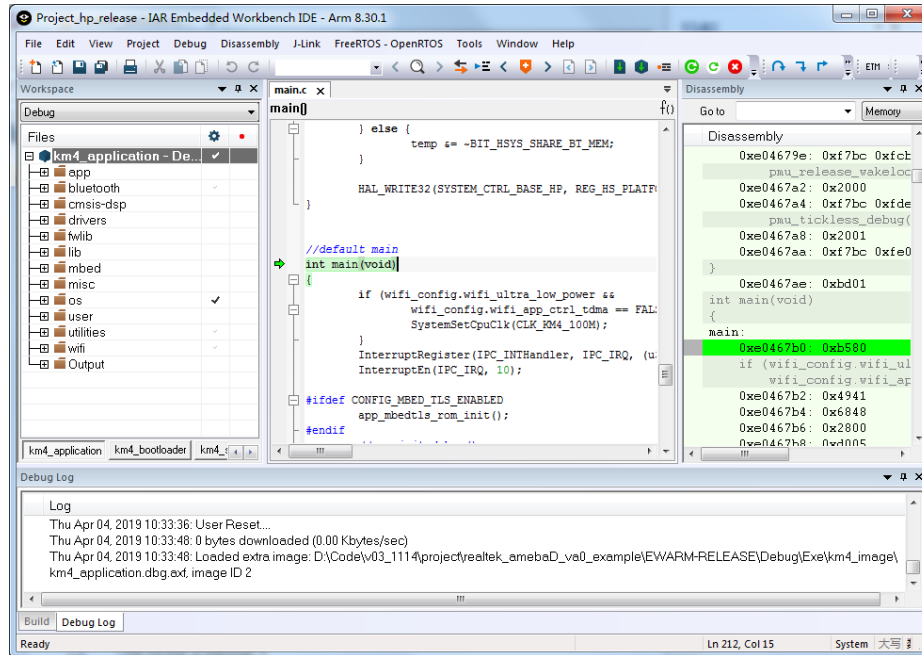

Fig 6-20 Running to main() when debug
- (1) Set the target project as active project and verify the debugger configurations as step (1) and (2).
- (2) Click **Project > Download and Debug** or **Project > Debug without Downloading**.
- (3) When starting IAR C-SPY to debug, it will firstly reset the target CPU and run to the main function, as Fig 6-20 shows.